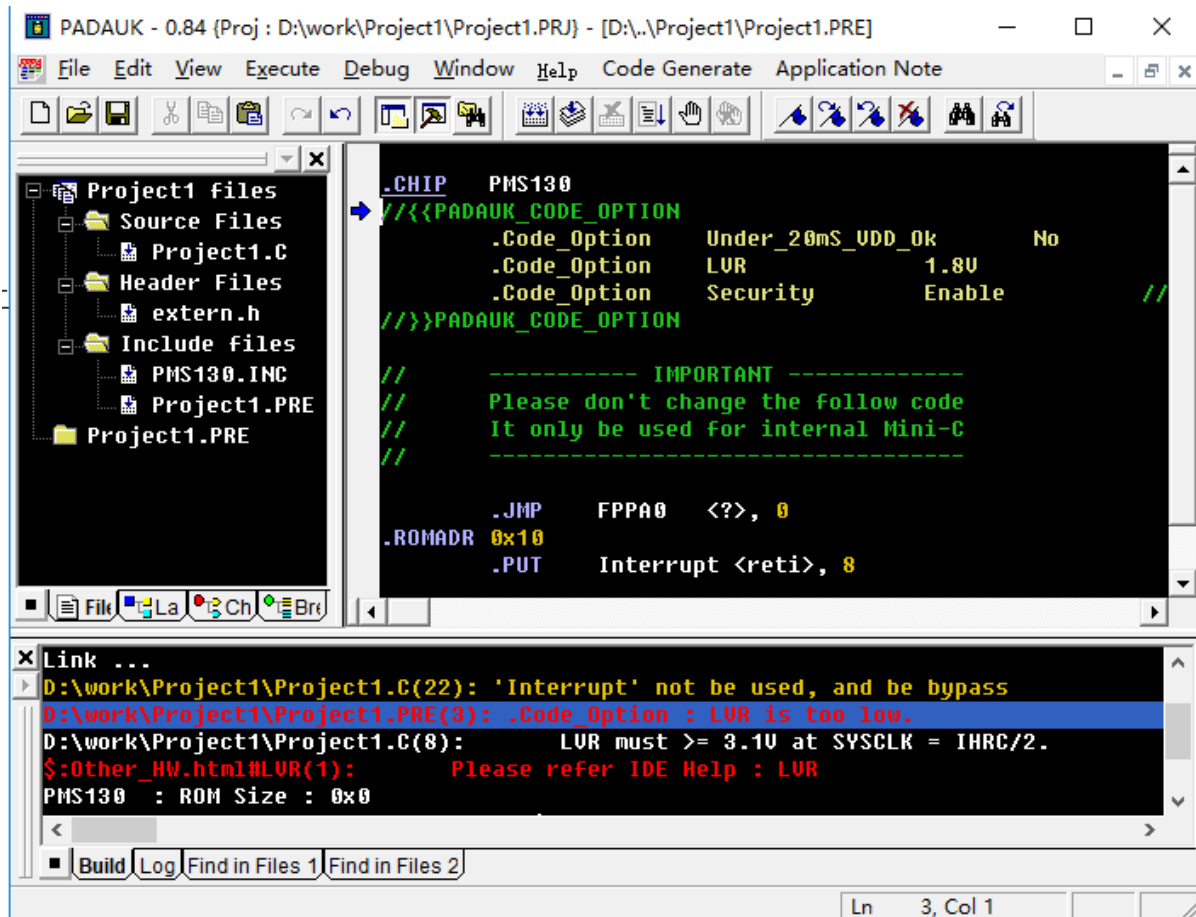

Fig. 3-19 Adjusting LVR
The voltage value of LVR should be coordinated with the system frequency (the default frequency is 8MHz) and IC working voltage to make the system work stably. If you do not select the appropriate voltage, the IDE will prompt error. As shown in figure 3-19:
**Note:** PMS130 is selected for this example. In figure 3-19, the command ".CHIP XXXXXX "is used to select the IC model. You can use this instruction to change the IC model.